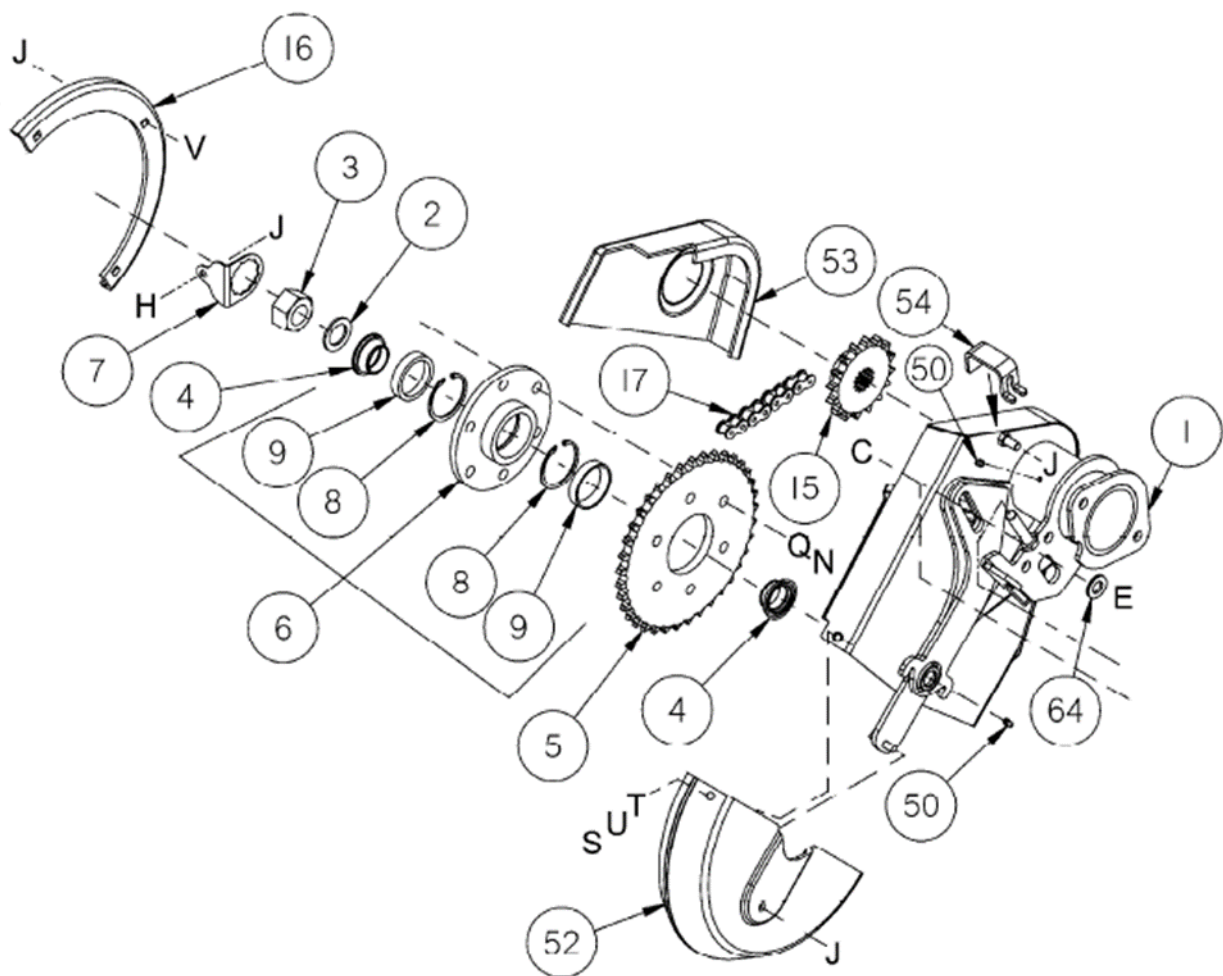

Figure 1: D60 assembly for reference
**D60:** Remove and discard the original half circle plastic lip (part 16 in Figure 1) which sat to the rear side of the drum on the drive end.
Open the inspection cover on the left (drive) end of the original drum, remove the left end bearing nut locking tab (part 7 in Figure 1) and remove the bearing nut (part 3 in Figure 1). (Place a clean rag under the stub shaft to catch the bearing in the next step)
Fit the sprocket and bearing hub (part 6 in Figure 1) from the original feed drum to the Typhoon. Use Loctite on the threads and no washers.